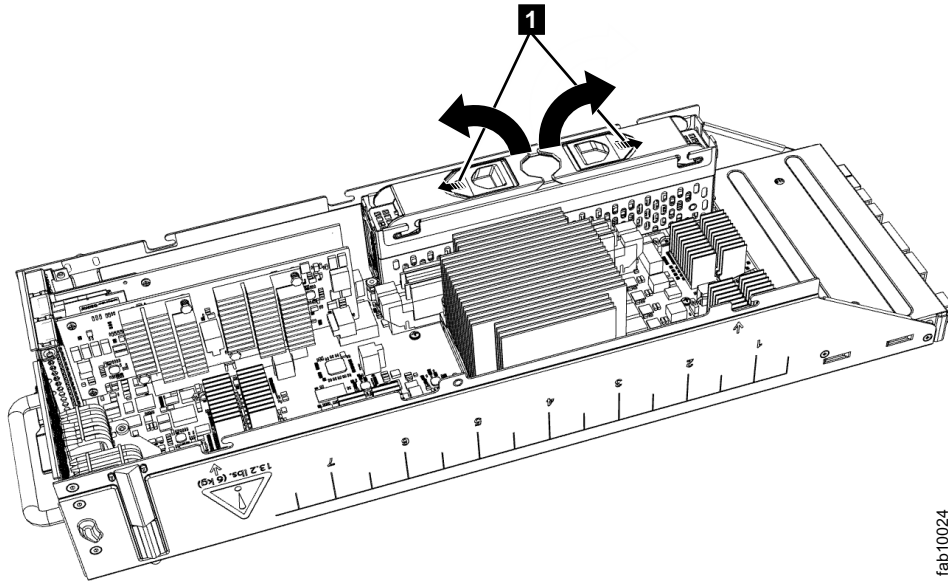

Figure 82. Opening latching arms to disconnect a Storwize V7000 Gen2 node canister battery
4. Spread the two blue battery latches outward as shown in Figure 82 on page 295. Raise open both latching arms of the battery simultaneously to disconnect the battery.